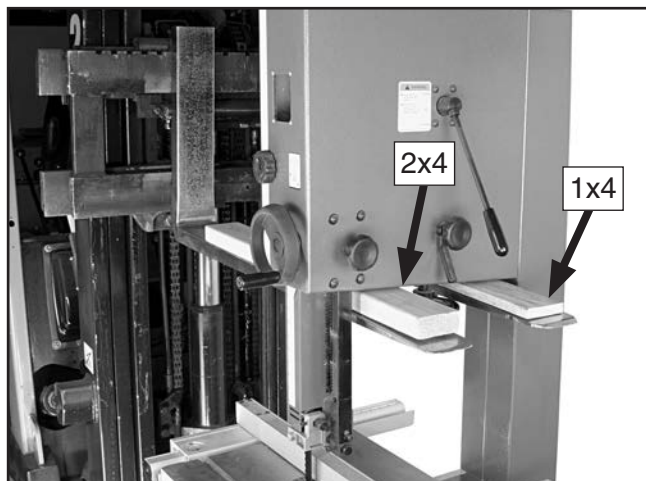

Figure 18. Example photo of lifting bandsaw with forklift using wood shims.
3. Carefully place the forklift forks under the head and insert a 1x4 block between the head and the left fork and a 2x4 block between the head and right fork so the bandsaw is level, as shown in **Figure 18**.